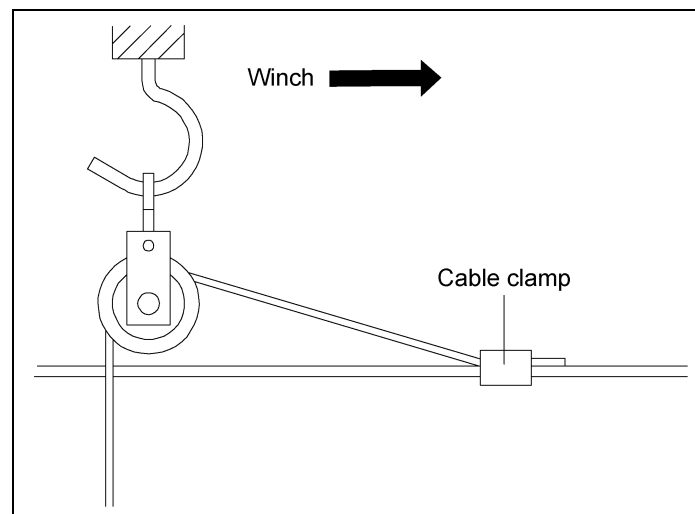

Figure 7DF
10. Thread the 1/8" (0.3175 cm) drop cable through each pulley and attach it to the 3/16" (0.47625 cm) winch cable about 6" (15 cm) from the pulley towards the winch with the 1/8" x 3/16" (0.3175 cm x 0.47625 cm) cable clamps. (See Figure 7DF on Page 67.)